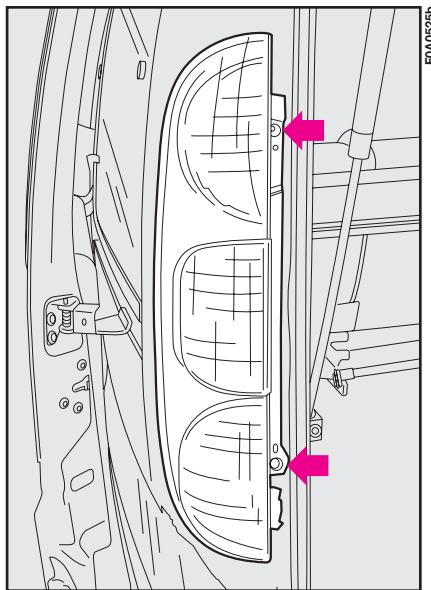

fig. 29
4) Undo, after removing the fastening bolt, the cluster fastening screws (located outside), as illustrated in **fig. 29**.